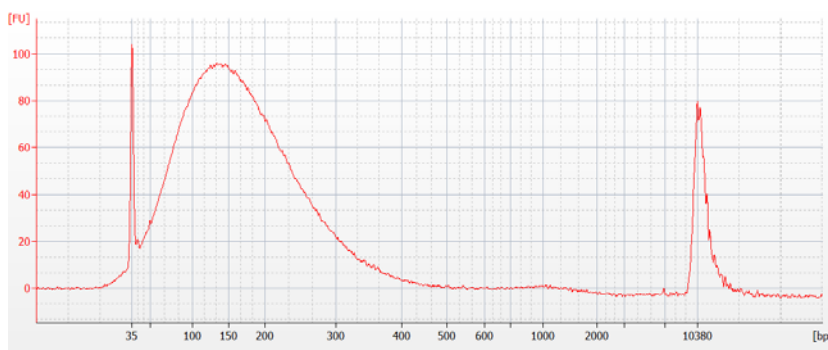

Figure 6 Analysis of sheared DNA using a High Sensitivity DNA Bioanalyzer assay.
- 7 Check that the electropherogram shows a DNA fragment size peak at approximately 150 bp. A sample electropherogram is shown in Figure 6.